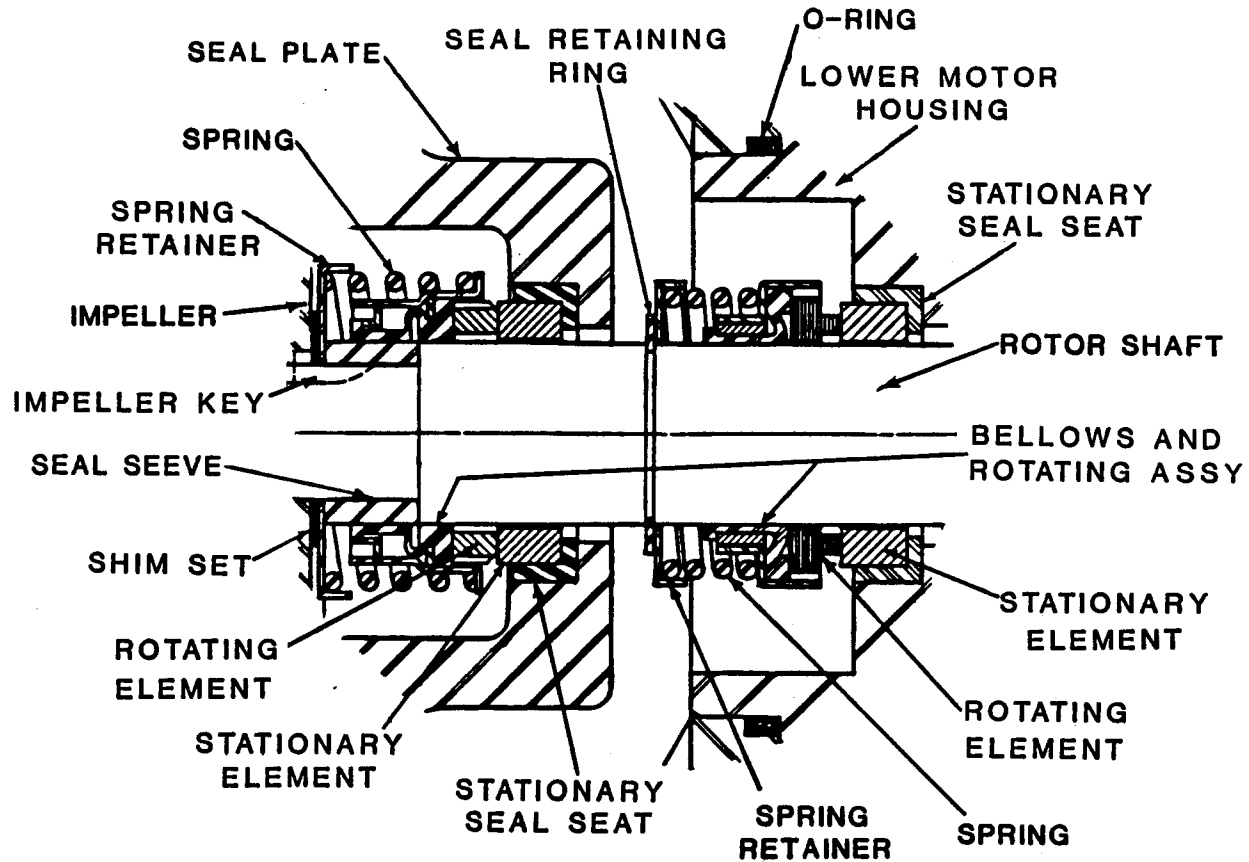

Figure 3. Seal Assemblies 46512-070 and S01832
Install the shaft seals as illustrated in Figure 3.
Slide the seal spring over the bellows retainer, and install the spring retainer. Install the seal retaining ring (81). See Figure 3 for proper order of seal assembly.
Slide the seal spring over the bellows retainer, and install the spring retainer. See Figure 3 for proper order of seal assembly.